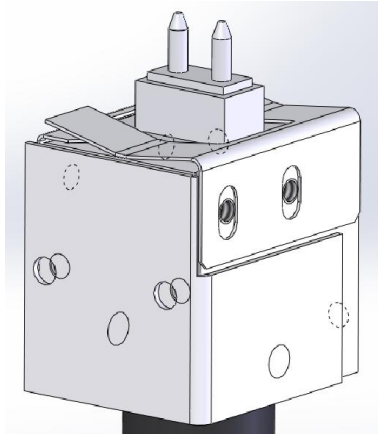

fig 57
- Replace a new light source by reverse steps, pay attention to the position of the light on the light source part, loaded flat and stable then fix the fixing plate (Fig57).